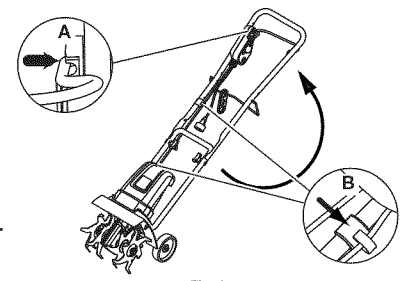

Fig. 1
2. With the unit upright, swing the handlebars up into the operating position (Fig. 1).
4. Check to make sure the bail is assembled into the switch assembly (Fig. 1, Inset A).
5. Clip the switch cable to the cable restraints on the upper and lower bars (Fig. 1, Inset B).